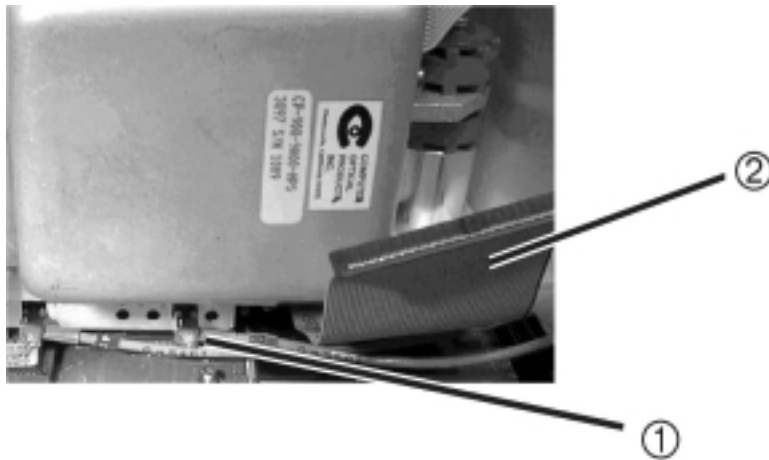

Figure 3-67. Disconnecting the Trans-Z ribbon cable
- 9** Disconnect the 50-pin Trans-Z ribbon cable located below and to the rear of the assembly. See ② in Figure 3-67 below.
- 11** While supporting the optical assembly, disconnect the Trans-Z Analog Out connector. See ① in Figure 3-67 above.
- 9 Disconnect the 50-pin Trans-Z ribbon cable located below and to the rear of the assembly. See ② in Figure 3-67 below.
- 11 While supporting the optical assembly, disconnect the Trans-Z Analog Out connector. See ① in Figure 3-67 above.
- 10 Disconnect the 50-pin Trans-Z ribbon cable located below and to the rear of the assembly. See ② in Figure 3-67 below.
- 12 While supporting the optical assembly, disconnect the Trans-Z Analog Out connector. See ① in Figure 3-67 above.